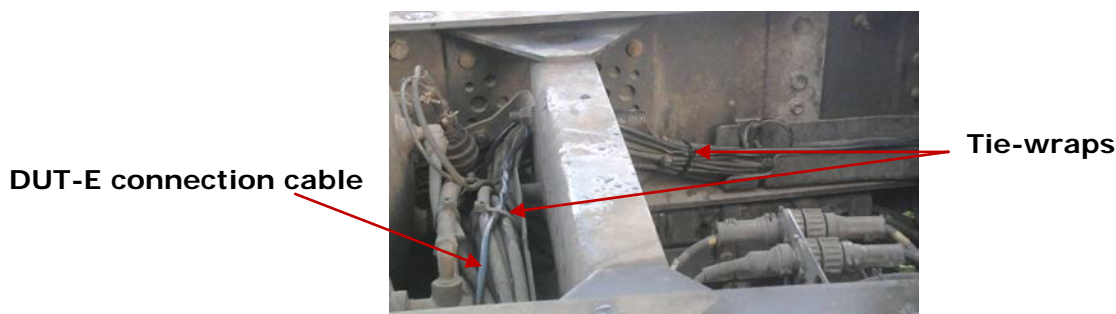

Figure 15 — DUT-E connection cable laying
- 3) It is **strongly recommended** to lay DUT-E connection cable together with the standard vehicle wiring with the mandatory tie-wrap fixing of every 50 cm (see Figure 15).